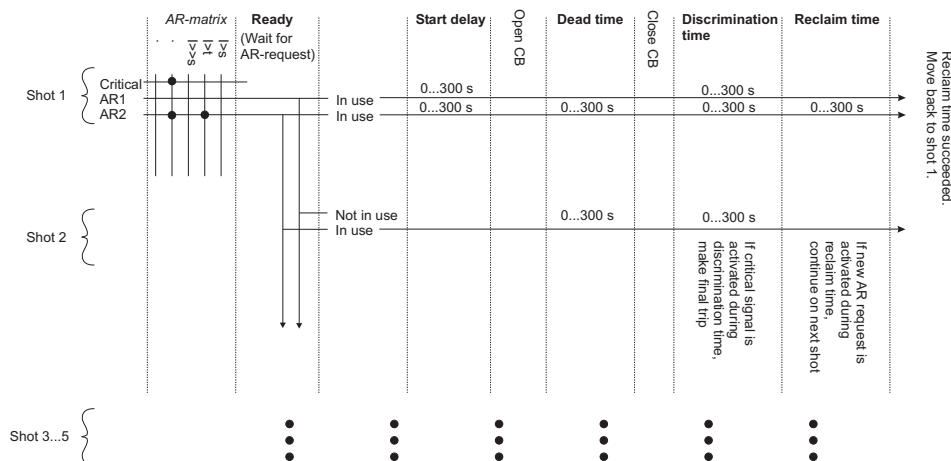

Figure 5.7-1 Auto-reclose matrix
5.7. Auto-reclose function (79)
The auto-reclose (AR) matrix in the following Figure 5.7-1 describes the start and trip signals forwarded to the auto-reclose function.